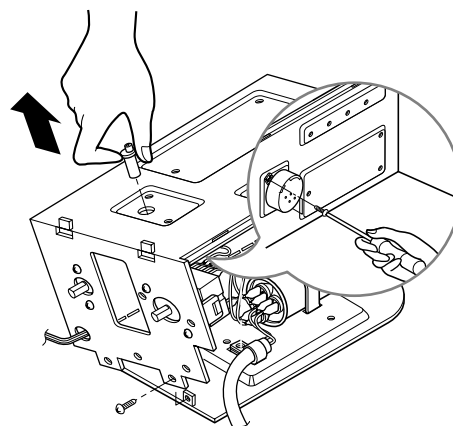

Figure 32
5. Remove the 2 screws which fasten the synchronous motor. (See Fig. 32)